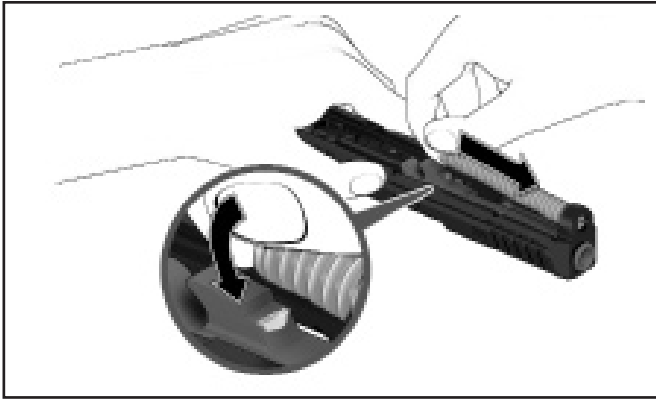

Figure 26 — Reassembling the recoil spring onto the barrel and slide
4. Push the recoil spring forward into position, compressing the recoil spring, then pivot the back of the recoil spring guide rod on to the stepped mounting surface located on the front of the barrel locking lug (see Figure 26).